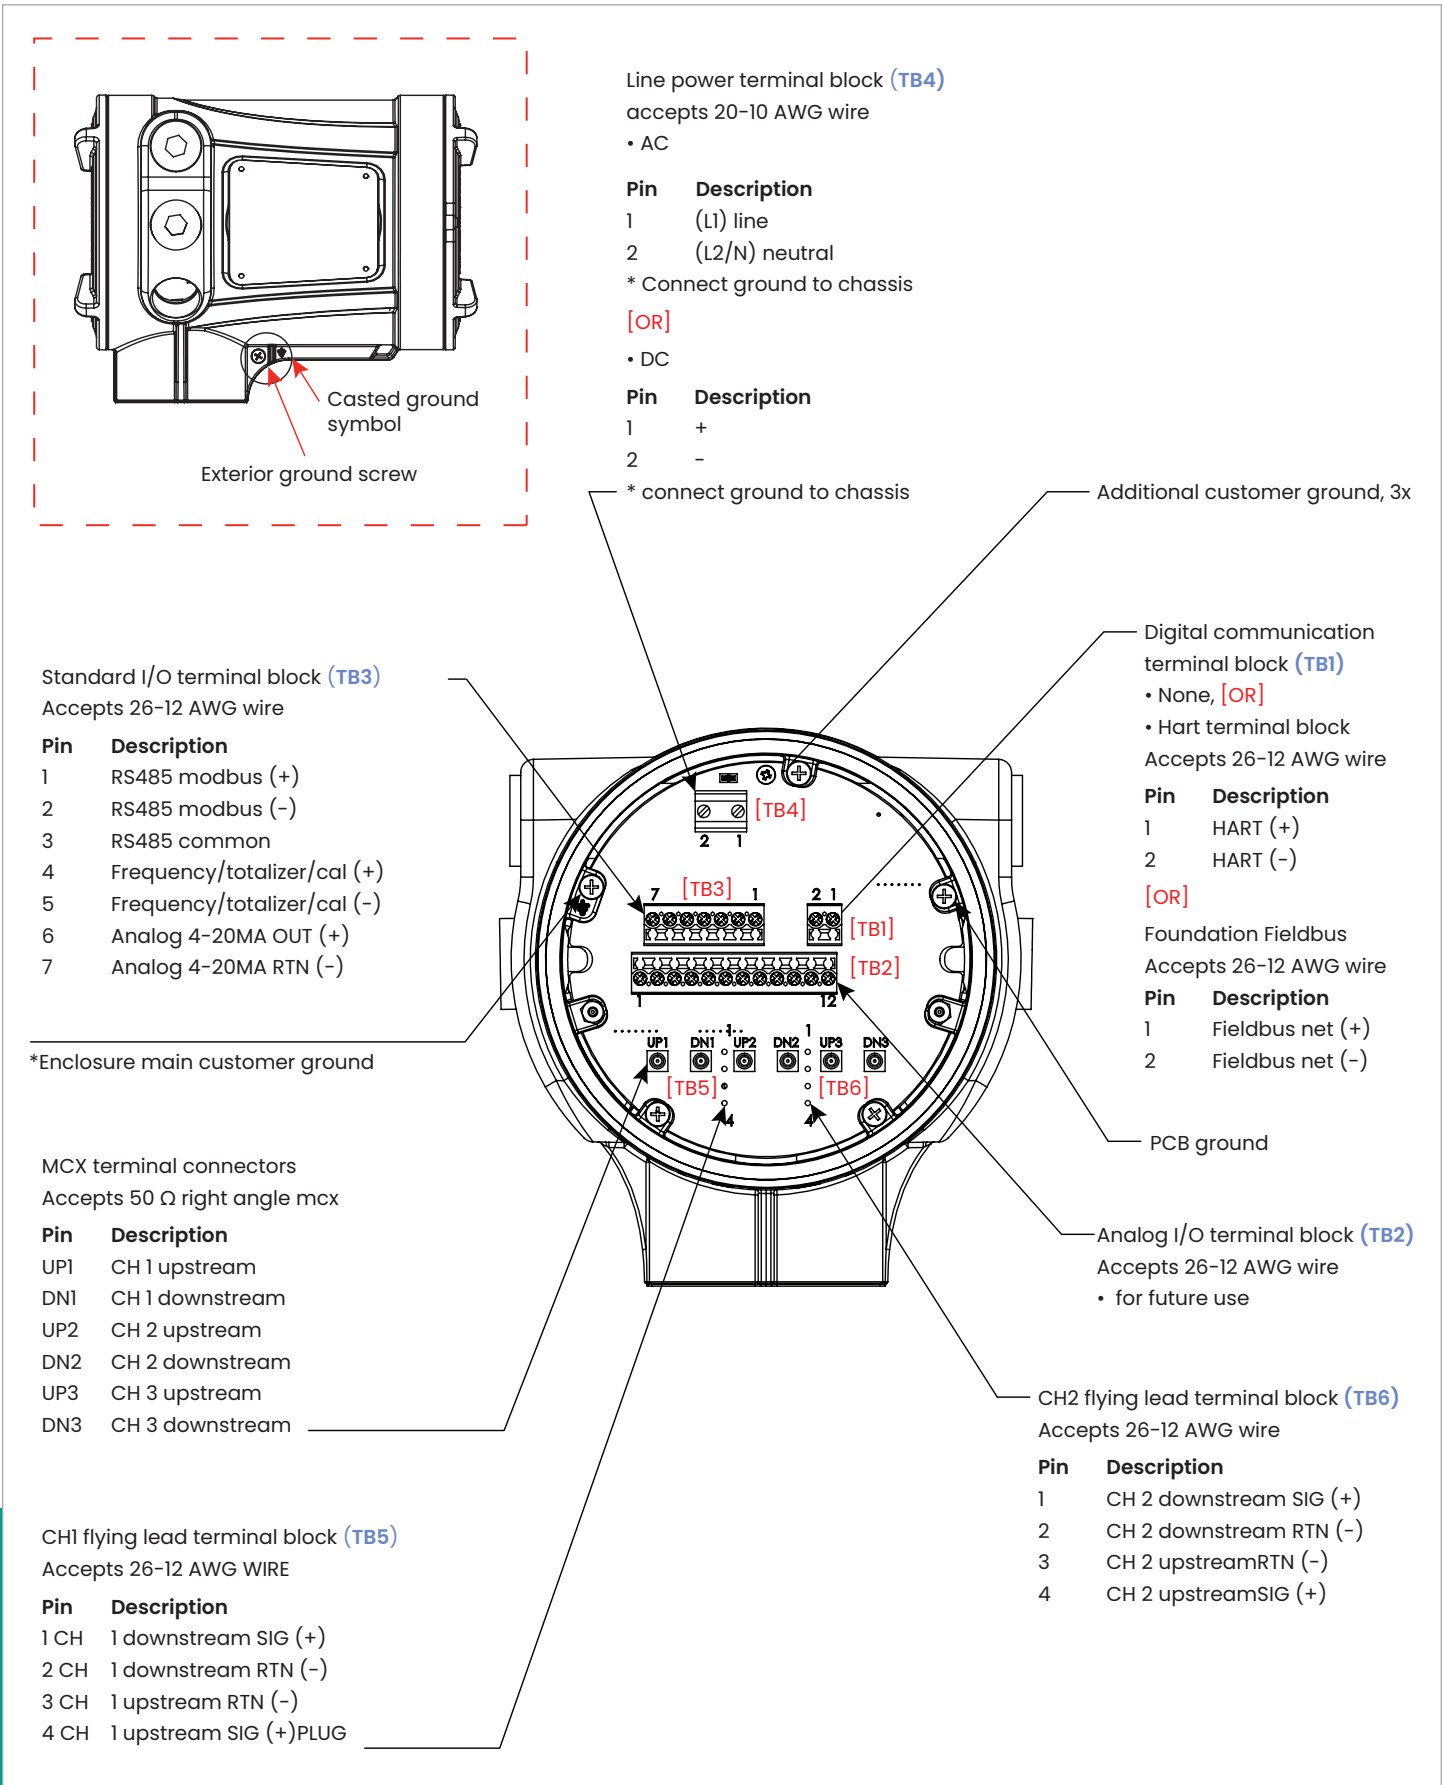
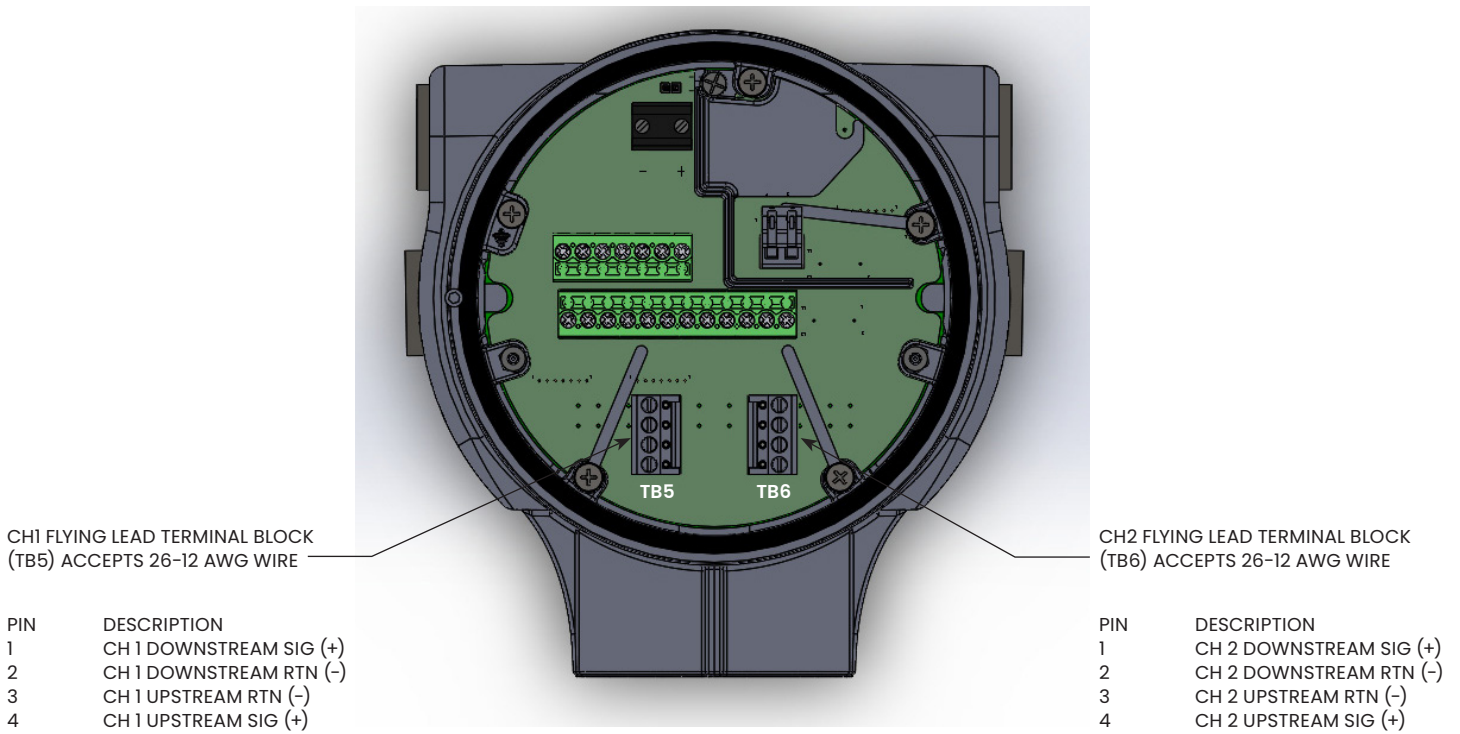

Figure 6: XMT1000 Terminal Board Wiring Diagram (ref. dwg. 702-2040)
Figure 7: XMT1000 Terminal Block 5 and 6 Wiring Diagram
This section contains instructions for making all the necessary electrical connections for the XMT1000 flow transmitter. Refer to *figure 6* for a complete wiring diagram.
Proper grounding of the XMT1000 enclosure via the external grounding screw on the enclosure (see *figure 6*) is required to prevent the possibility of electric shock. All ground screws should be hand tightened only, to a maximum allowable torque of 2.5 N-m (22 in-lb).
3. Refer to figure 6 on page 8 for the location of the terminal block and wire the analog output as shown. Secure the cable gland.
3. Refer to *figure 6* for the location of the terminal block and wire the digital output as shown. Secure the cable gland.
Wire this option in accordance with the connections shown on the label in the rear cover (see *figure 6*). Refer to Appendix A, *specifications* for the load and voltage requirements.
The XMT1000 flow transmitter is equipped with a calibration port specifically designed for calibrating the XMT1000. It is wired for a frequency output. To wire to this port, refer to *figure 6* and complete the following steps:
To wire to this RS485 serial port, refer to *figure 6* and complete the following steps:
Refer to Figure 6 on page 6 and Figure 7 on page 7 to locate the Channel 1 and Channel 2 flying lead terminal blocks.
The display window on the XMT1000 includes the components shown in *figure 7* below.